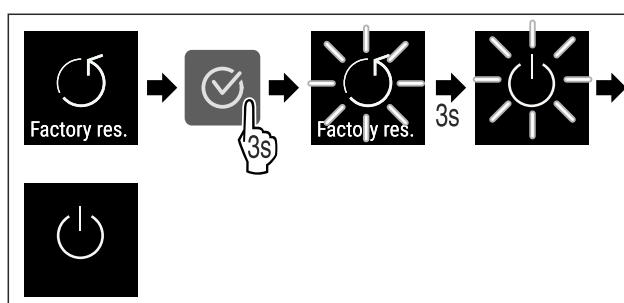

Fig. 113
- ▶ Complete the steps (see Fig. 113).